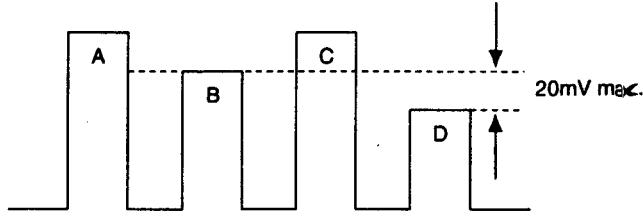

Fig. 5-14
3. Connect the probe of an oscilloscope to IC404 ⑩ PIN or TP402.
5. Adjust [SUB CHROMA SMPTE] so that the levels of B and D will be the same. (Fig.5-14)